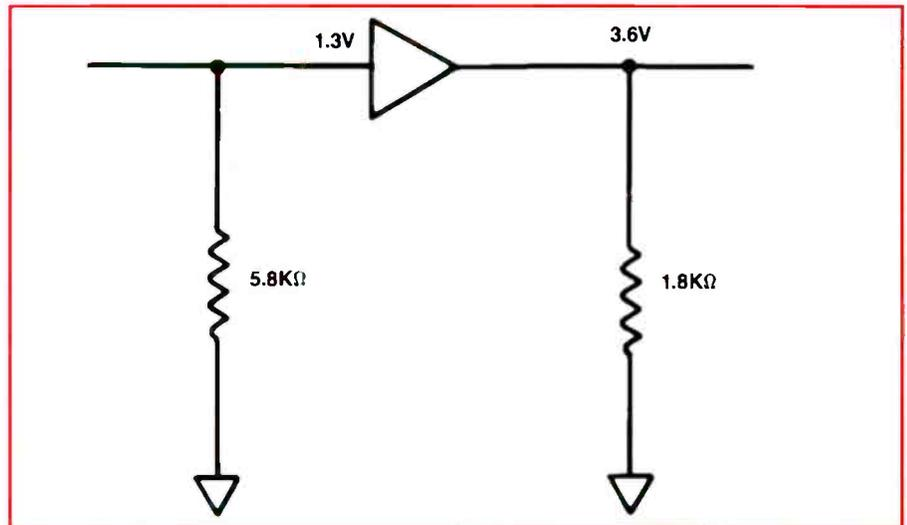

Figure 1. What is the dB gain of this amplifier?
Figure 1. Military specification MIL-I-46058C, the conformal coating specification, lists these five types of conformal coatings. These types of coatings comprise the bulk of those being used by both consumer and military manufacturers.
3. Figure 1 shows an amplifier with a signal voltage input of 1.3V and an output signal voltage of 3.6V. What is the dB gain of the amplifier?